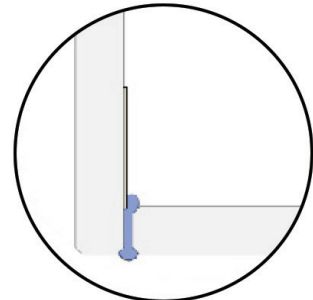

FIG 21.
- Gently place glass to glass panel into siliconed floor channel and tilt gently upwards until it joins to glass to wall panel (**FIG 21**). Ensure there is no side to side movement while placing panel as this will smear silicone.